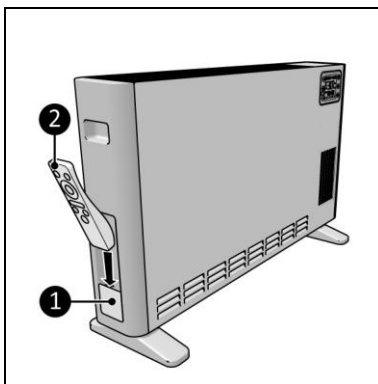

Figure 13
1. The remote control (Figure 13, pos. 2) can be placed in the remote control slot (Figure 13, pos. 1) on the side of the device.